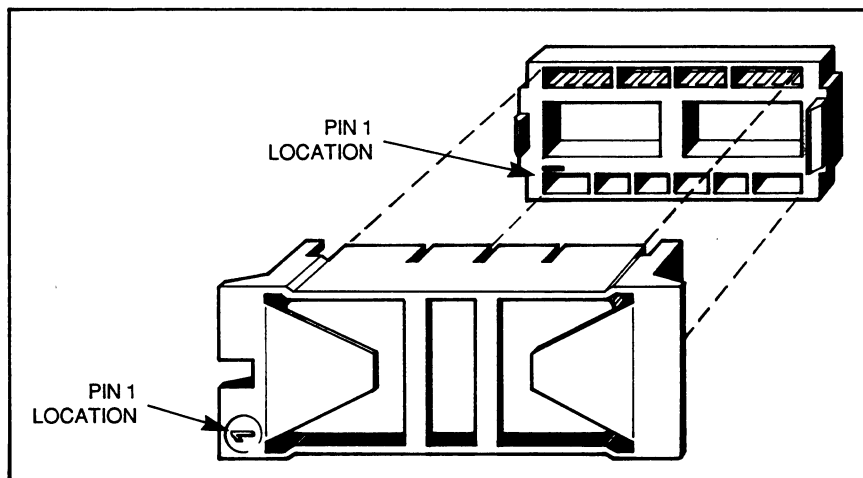

Figure 2-3. Installing the Firmware Chip
4. Install the replacement firmware chip into the socket, orienting pin one of the chip holder to pin one of the socket, as shown in Figure 2-3, below. Apply gentle, even pressure, and be sure that no pins are bent or out of alignment in the sockets.